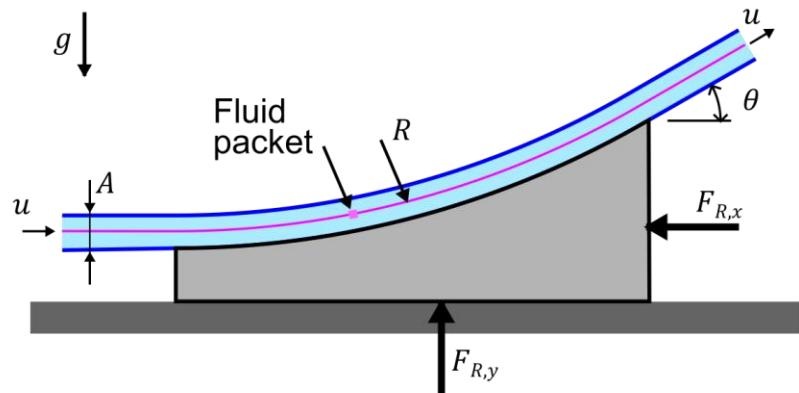

Figure Q2
2. Figure Q2 shows a block resting on a frictionless surface. The curved surface of the block is impacted by a steady jet of water ($\rho = 1000 \text{ kg m}^{-3}$), that follows the curved surface and is deflected upwards. The jet has a cross-sectional area of $A = 0.04 \text{ m}^2$ and a uniform velocity of $u = 4 \text{ m s}^{-1}$. After being deflected by the angle $\theta = 30^\circ$, the jet has the same area and uniform velocity. The total mass of the block and fluid in contact with the block is $m = 50 \text{ kg}$. The block is held stationary by applying the force $F_{R,x}$. The flow is assumed to be inviscid. Gravitational acceleration is $g = 9.81 \text{ m s}^{-2}$.
Consider a small fluid packet (or particle) that travels along the streamline in the centre of the jet (highlighted in Figure Q2, page 8). As it is deflected by the block, it follows a circular path with a radius of curvature $R = 5$ m.